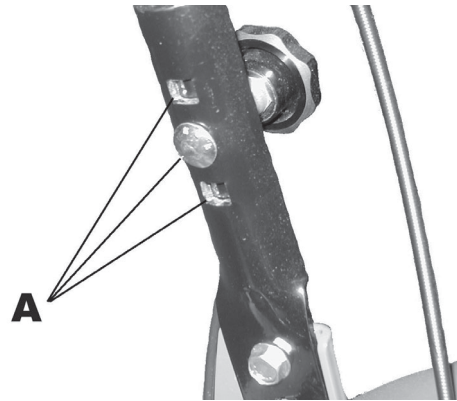

Fig. 8.11a
2. For vertical handlebar adjustment remove the coach bolt from the handlebars, then replace in appropriate slot, (A Fig. 8.11a) retighten bolt.